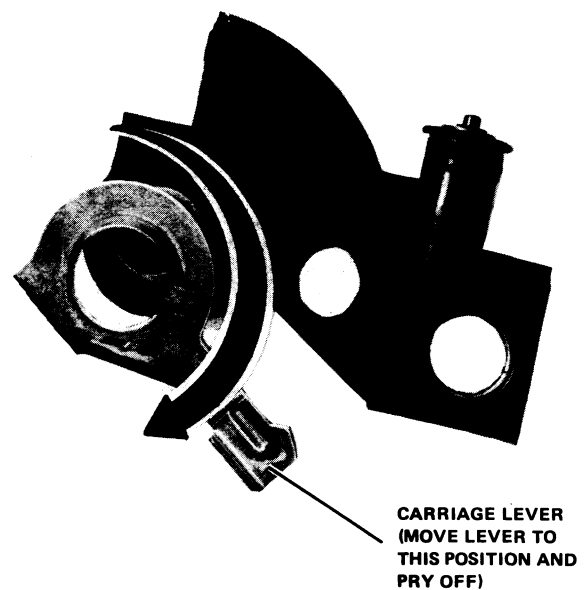

Figure 7-13 Carriage Lever and Eccentric Bearing Replacement
4. To remove the eccentric bushing or carriage lever, set the lever to the position shown in Figure 7-13 and pry off one side of the carriage lever.
2. Align the slots in the bushing with the carriage lever and snap the carriage lever into the carriage assembly (Figure 7-13). Set the carriage lever to the no. 1 position.